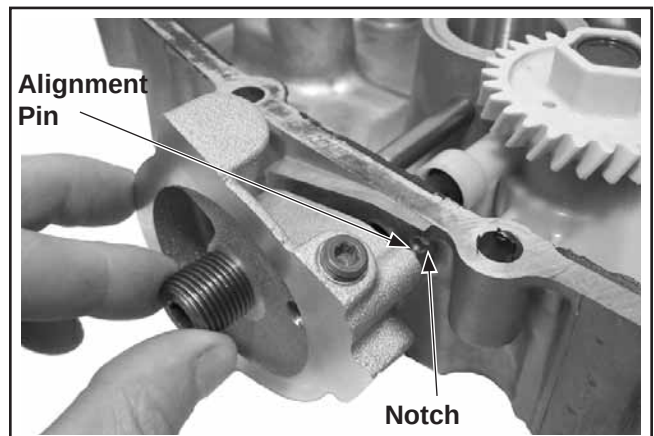

Figure 10-23. Installing Nipple and Adapter.
5. Position the adapter, aligning the locating pin with the corresponding recess in oil pan. Install the flat washer (plastic adapters only) onto the adapter nipple, then insert through the adapter, surrounding the oil feed tube and finger tighten. See Figures 10-23 and 10-24. Tighten the nipple and torque to **33.9 N·m (300 in. lb.)**. Do not overtighten.